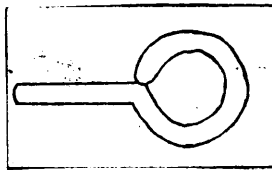

Figure 5.
6. As the curve is formed, keep moving the stock over the horn, striking glancing blows on top of the stock until all the stock back to the right angle is formed into a circle. (Figure 5).